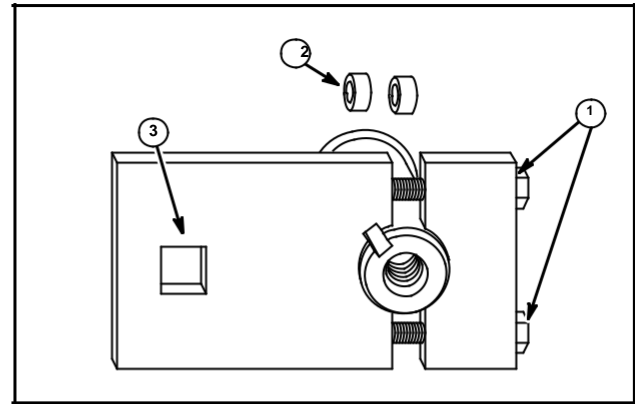

Fig. 1
2. Remove spark plug from engine. Remove air cleaner and disconnect crankcase breather tube from air cleaner base (if equipped). Remove spacers (2) from 1" diameter crankshafts.
4. Assemble Tool #19415, Clamping Tool, on crankshaft. Torque screws (1) to 150 in. lbs. (17 Nm). Insert a 1/2" drive breaker bar into square hole in clamp (3), Fig. 1.